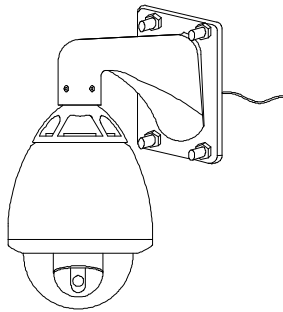

Figure 26
- 9) Fixes the support on the wall (Figure 26)